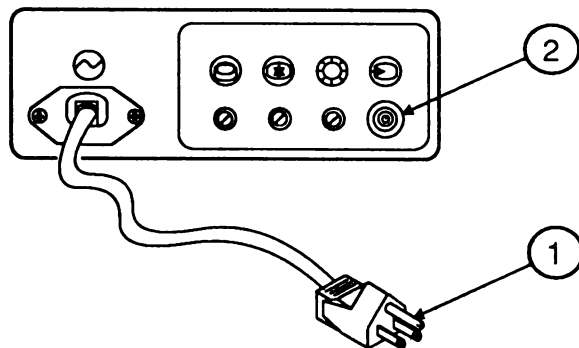

FIGURE 2
3. Touch the black lead of the multimeter to the AC power cord ground pin (Figure 2, #1).
4. Touch the red lead of the multimeter to the metal casing of the video connector (Figure 2, #2) at the rear of the monitor. (Repeat this procedure several times to be sure you are getting a consistent reading.)